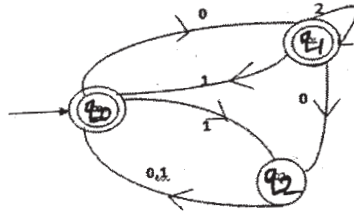

Fig 2
- b) Make use of Arden's theorem to determine the regular expression for the finite automata shown in fig 2. [6]